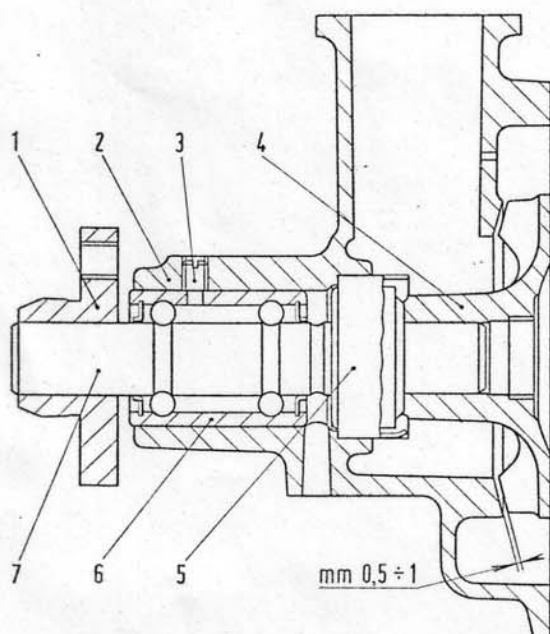

Fig. 40. - Side section view of water pump.
The water pump bearing (6, fig. 40) is integral with the impeller shaft (7) and is metal boxed at ends.
A retaining screw (3, fig. 40) secures the bearing to the pump housing.
When installing the pump make sure that between impeller vanes and pump housing there is a clearance of .0197" to .0394" (0.5 to 1 mm) (see fig. 40).